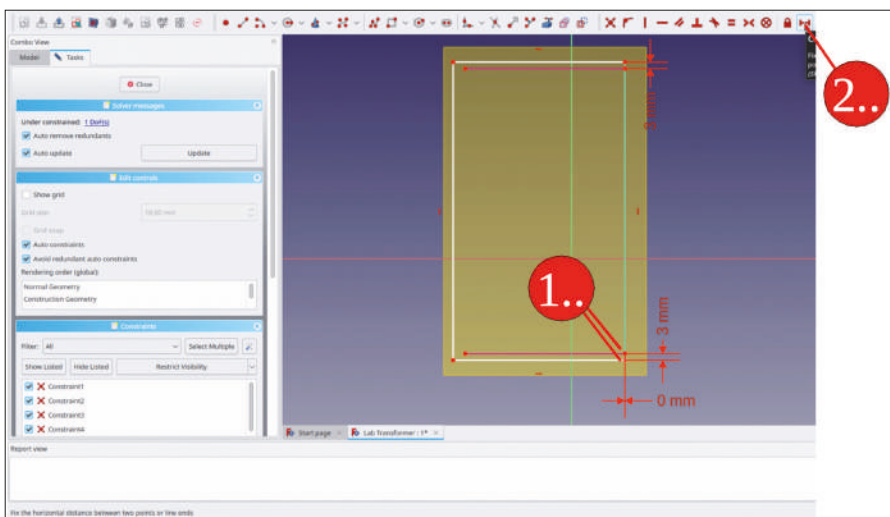

Figure 9-112
13. Mark the two lower points again and constrain their horizontal distance to zero. (Figure 9-112).